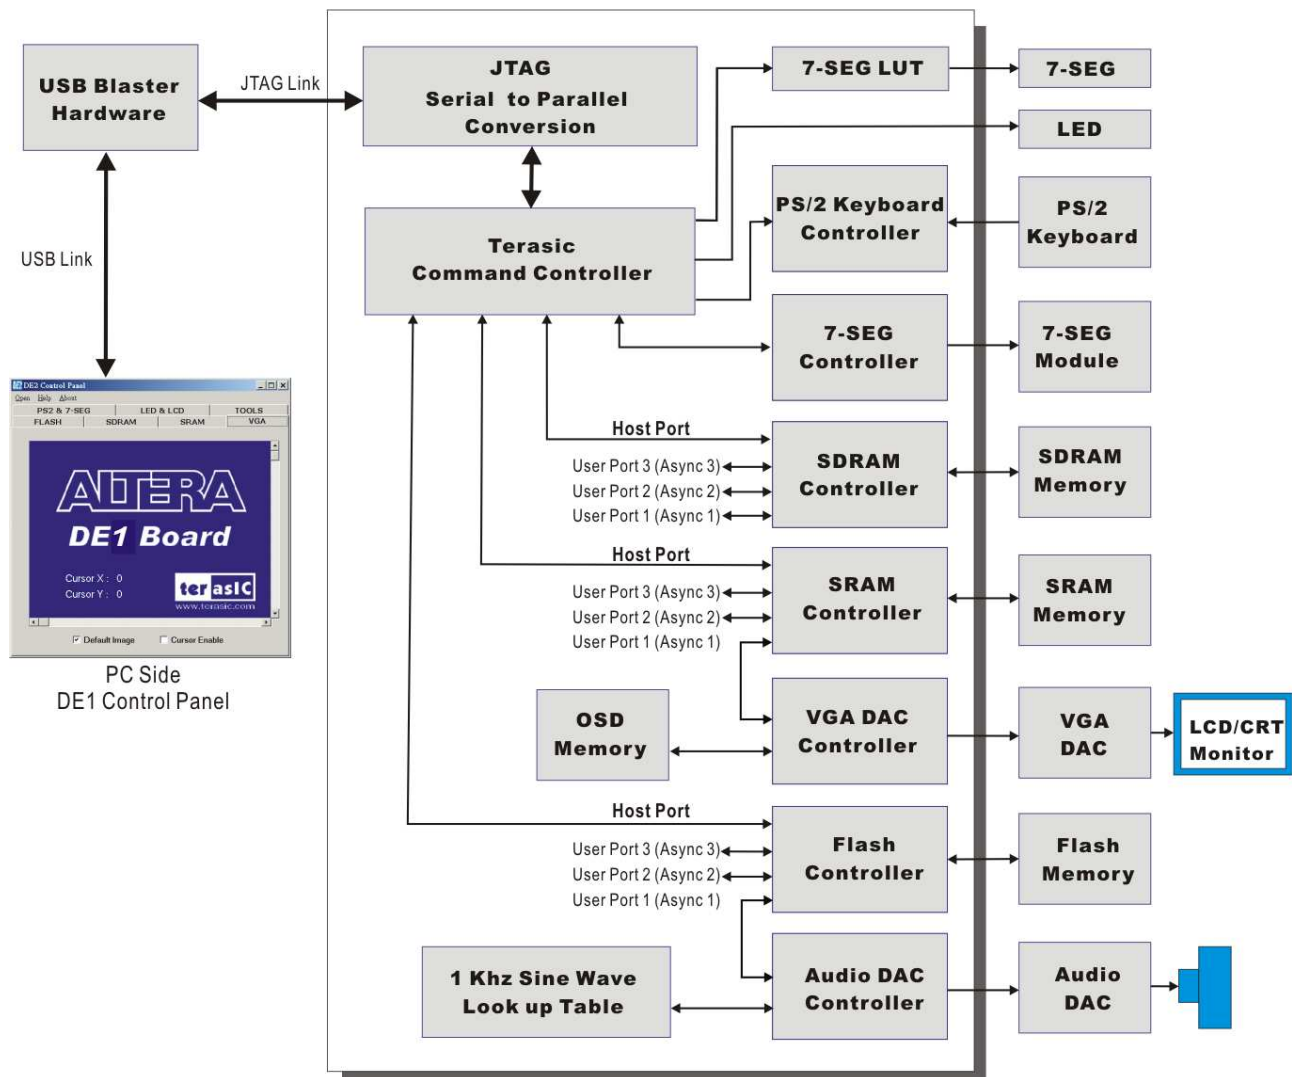

Figure 3.7. The DE1 Control Panel block diagram.
To run the Control Panel, the user must first set it up as explained in Section 3.1. Figure 3.7 depicts the structure of the Control Panel. Each input/output device is controlled by a controller instantiated in the FPGA chip. The communication with the PC is done via the USB Blaster link. A Command Controller circuit interprets the commands received from the PC and performs the appropriate actions. The SDRAM, SRAM, and Flash Memory controllers have three user-selectable asynchronous ports in addition to the Host port that provides a link with the Command Controller. The connection between the VGA DAC Controller and the FPGA memory allows displaying of the default image shown on the left side of the figure, which is stored in an M4K block in the Cyclone II chip. The connection between the Audio DAC Controller and a lookup table in the FPGA is used to produce a test audio signal of 1 kHz.
3. Select the Asynchronous 1 port for the Flash Multiplexer and then click on the **Configure** button to activate the port. You need to click the Configure button to enable the connection from the Flash Memory to the Asynchronous Port 1 of the Flash Controller (indicated in Figure 3.7).
6. Note that the Asynchronous Port 1 is connected to the Audio DAC part, as shown in Figure 3.7. Once you selected Asynchronous Port 1 and clicked the Configure button, the Audio DAC Controller will communicate with the Flash memory directly. In our example, the *AUDIO_DAC* Verilog module defines a circuit that reads the contents of the Flash memory and sends it to the external audio chip.